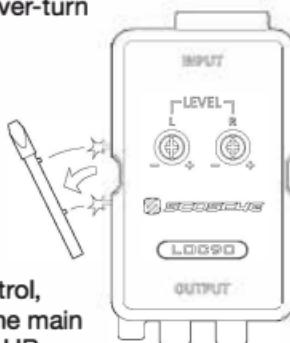

FIGURE 2
1. Carefully break away the screwdriver tool from the side of the **LOC90** case (Figure 2).